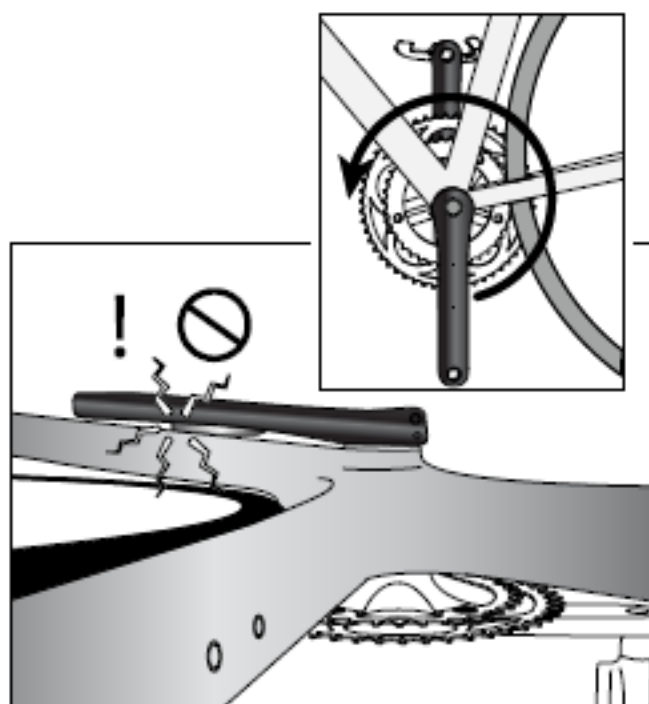

FIG 7
3. Carefully and slowly rotate the crank 1 full revolution to ensure there is no contact between the power meter sensor housing and any part of the frame or other components as illustrated in **FIG 7.**